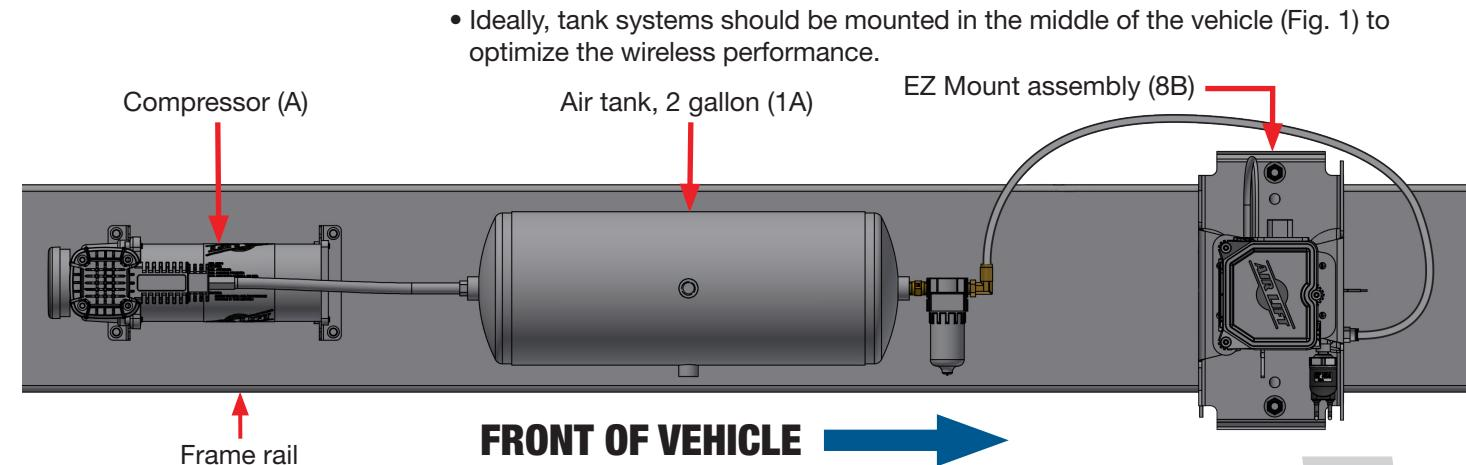

fig. 1
This guide should be used as a general reference. The layout (Fig. 1) may need modification based on your application.
- Ideally, tank systems should be mounted in the middle of the vehicle (Fig. 1) to optimize the wireless performance.
If the compressor leader line will be attached directly to the tank, then your tank prep is complete. (As shown in Fig. 1)